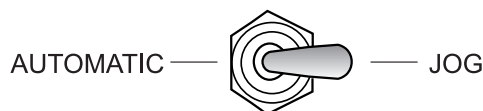

Figure 53. Cylinder Stroke Control Switch (JOG)
1. To determine the pressure of the hydraulic system, set the **cylinder stroke control switch** (Figure 53) to the **JOG** position.